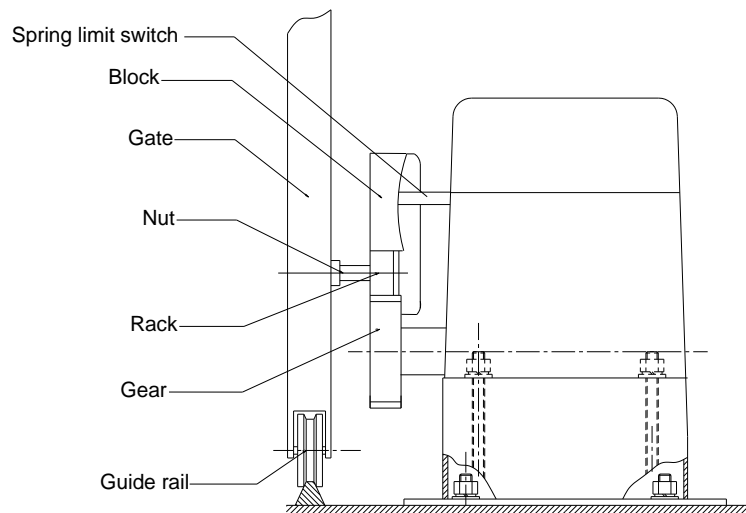
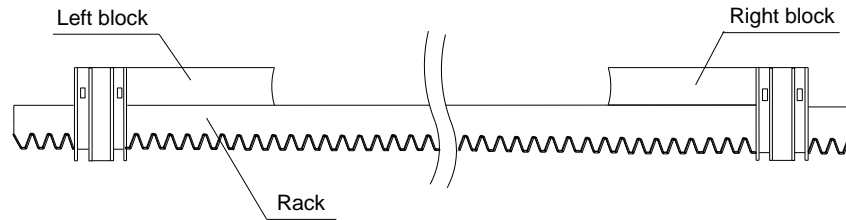

Fig.4
Fig.5
- Install the plastic block as shown in Fig.4 and Fig.5. The spring limit switch and blocks are used to control the position of the gate.